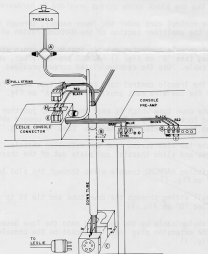

Fig. 1
3. Mount the console connector chassis inside the organ within reach of the down tube, (see "B" on Fig. 1) HAMMOND pre-amplifier, and Tremolo switch control cable. Use the cadmium plated screws provided.
4. Connect the Tremolo control cord to the AC type wires from the console connector. Use the wire nuts provided. (See "A" on Fig. 1)
5. Locate the down tube which is near the HAMMOND junction box. Remove its screw and locking clamp. Then slide the tube upward about 3 inches to make room for the extension chassis. (See "B" on Fig. 1)
6. Remove the two side screws from the extension chassis. Now loosen the two top screws and slide chassis' end plate out of the chassis body (See Fig. 1).
7. Guide existing HAMMOND console wires through the slot in the extension chassis. (See "C" on Fig. 1)
8. Drop a pull string through the down tube and tie it to the extension cable plug. (See "D" on Fig. 1)
9. Pull extension cable up the tube and onto the Tone Generator Support Shelf. Insert the extension plug into its socket on the console connector. (See "E" on Fig. 1)
10. Fit down tube into its hole on the extension chassis and reassemble the chassis. Using the BRONZED wood screws provided, mount extension chassis to the bottom shelf. (See "C" on Fig. 1)
11. Connect BLUE and GREY console connector wires to the 117 VAC terminals behind the protective cover on the HAMMOND pre-amplifier. (See "F" on Fig. 1)
12. Connect BROWN console connector wire to the "GND" terminal on the HAMMOND pre-amplifier. (See "G" on Fig. 1)
13. Remove RED and BLACK main speaker wires from HAMMOND pre-amp's two "G" terminals. Connect them to the two screw terminals on the console connector chassis. (See "H" on Fig. 1)
14. Connect RED and BLACK console connector wires to matching "G" terminals formerly occupied. (See "I" on Fig. 1)
15. Plug the LESLIE Speaker cable into its socket on the console connector extension chassis. (See Fig. 1)